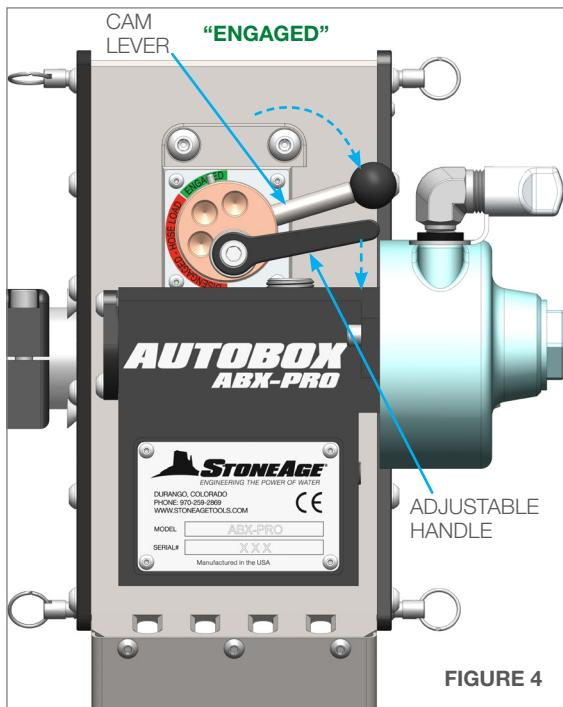

FIGURE 4
4. Rotate the Cam Lever clockwise to the **"Engaged"** position to tighten the Idler Roller down onto the hose. Push the Adjustable Handle down to tighten the bushing assembly. (**Figure 4**)
- Pull on the Camlock Release Rings and slide the Camlock onto the male end of the ABX-PRO PRODRIVE. Push the Camlock pins back to lock into place. (**Figure 4**) Pull on the Snout Assembly to make sure it is secured. Feed the rest of the hose through the Snout Assembly and leave enough length to feed through a pipe flange attachment.
4. Loosen the two screws on the collet cap block and slide the BOP 030 Collet Block Assembly onto the BOP 084 Threaded Snout Tube. Push the Collet Block until it stops on the Snout Tube, then tighten the two screws securely. (**Figure 4**)
- Insert the BOP 058 Female Positioner Assembly into the Hinge Clamp Assembly. This can be done in the open or closed position and is designed to be adjustable based on the size of the pipe. (**Figure 4**)